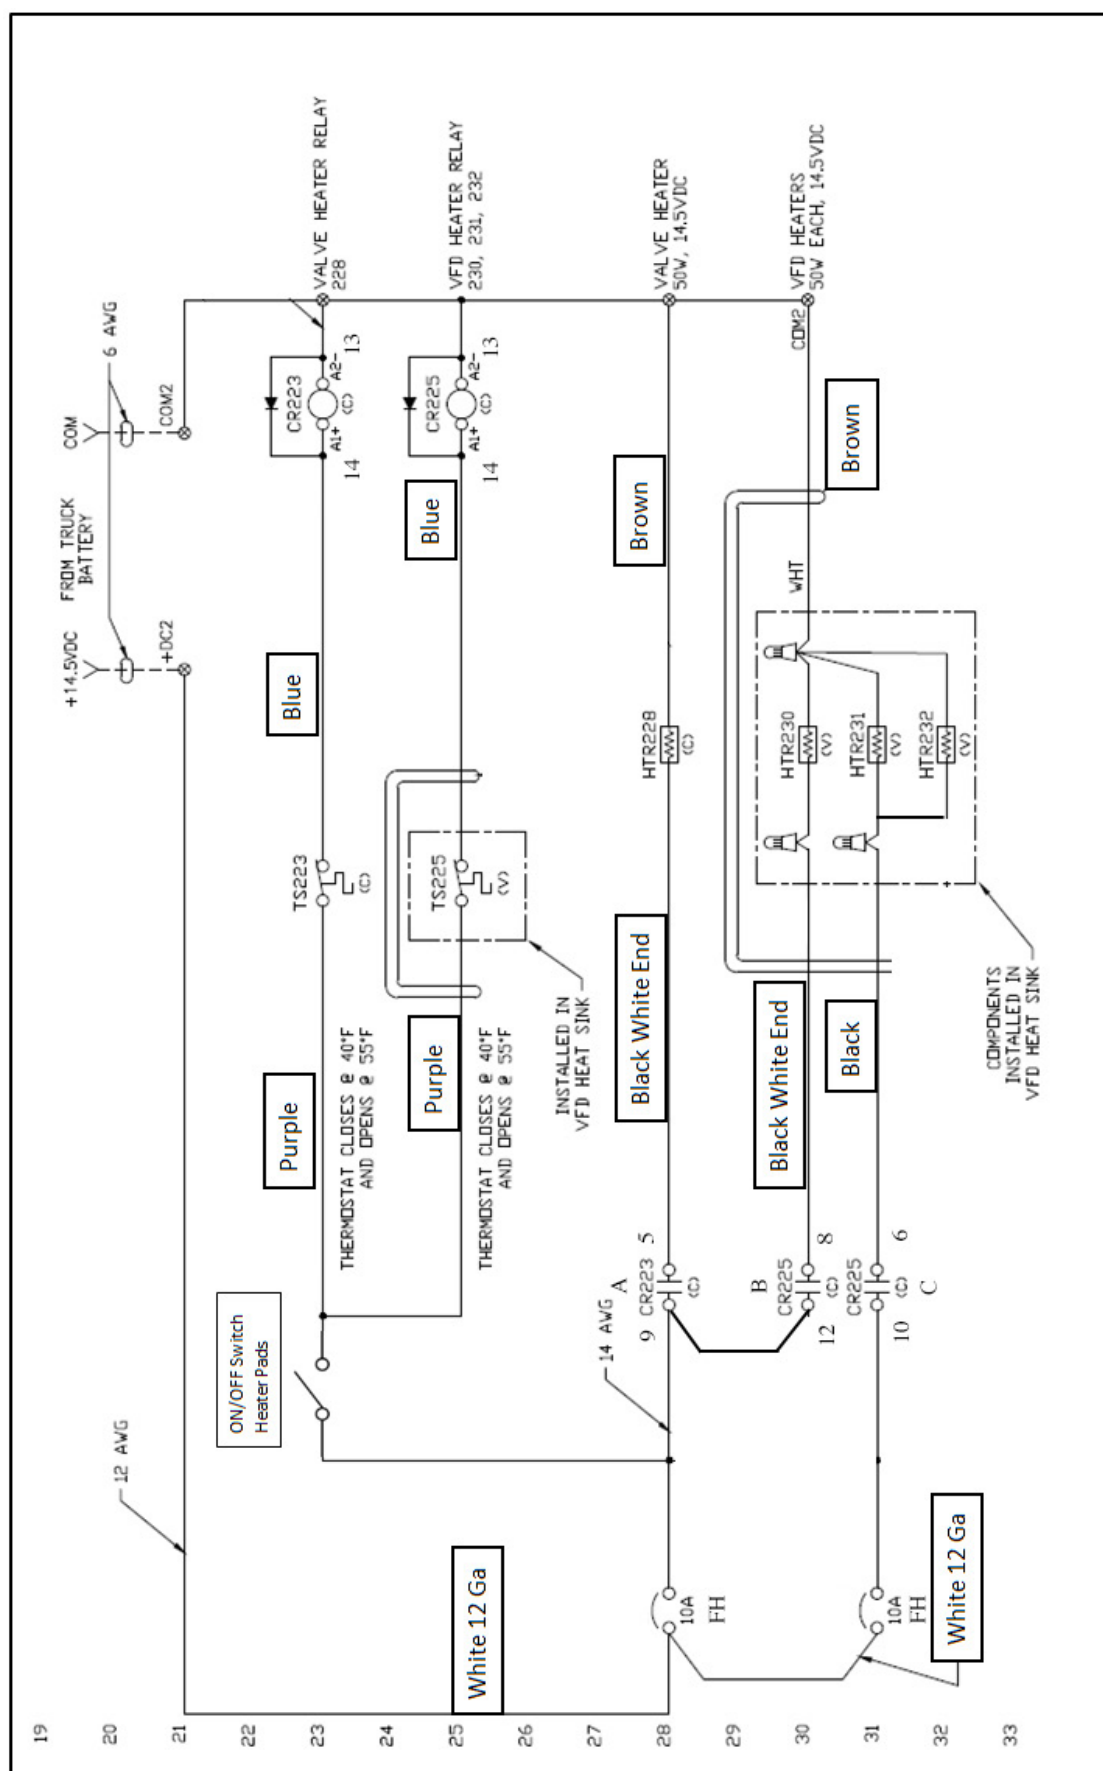

Figure 1 - Wiring Diagram
- Wire the control panel following the wiring diagram (see Figure 1).
- Run a jumper from the lead used in the above relay to the 1PDT relay input (9).
- Find the switched power lead (5) connect this with a control box heater pad wire. May not need to be spliced in some cases.
- On the control panel thermostat connect one of the wires to signal leads on the 1 PDT relay (14).